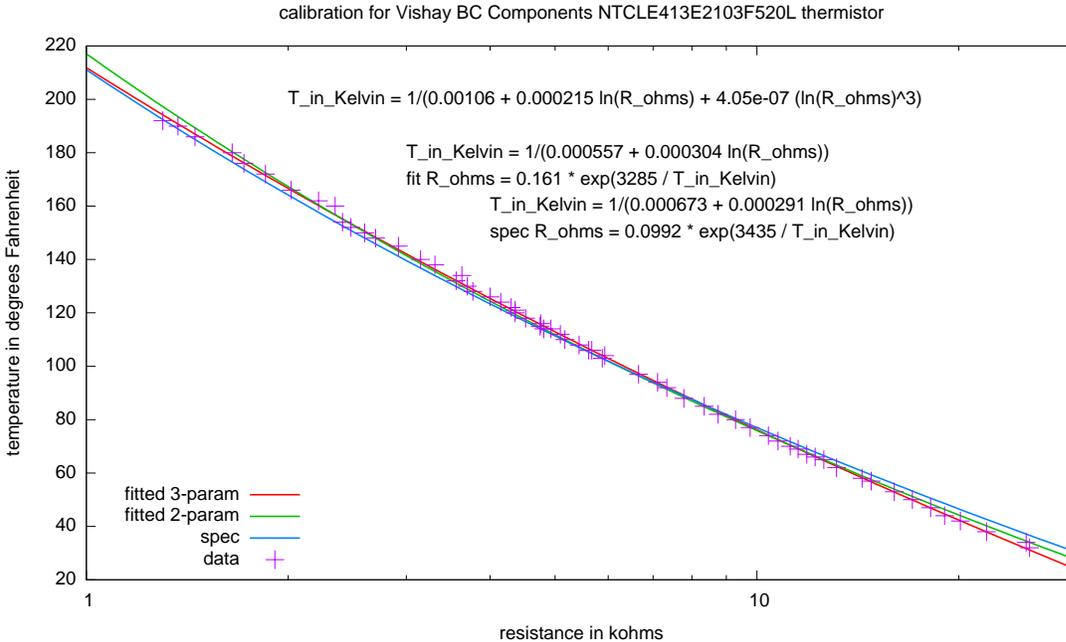

Figure 4: Plot produced from measurements with a Fahrenheit thermometer. Your plot should use Celsius measurements.
Because this is the first time most of you have used gnuplot, we'll spend Wednesday's lecture developing a gnuplot script to produce plots like the the one in Figure 4, which fits the Steinhart-Hart model and a simpler 2-parameter model to the data. Bring a computer with gnuplot installed and your data already in a computer file to Wednesday's class, so that you can work along with the class discussion.
- A plot of measurements made and any modeling done (for example, the temperature vs. resistance calibration curve in Figure 4). The plot should use the units measured (Ω or $k\Omega$ and °C, for example).